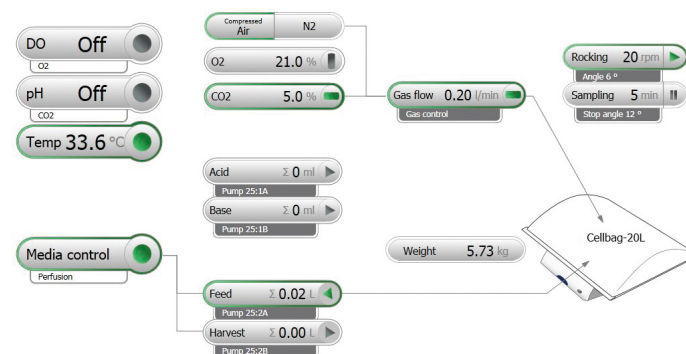

Fig 4. Example of UNICORN 6.4 interface to a ReadyToProcess™ WAVE™25 system with interactive display and buttons.
- Real-time flow scheme showing the current flow path, valve positions, and monitor values (Fig 4)